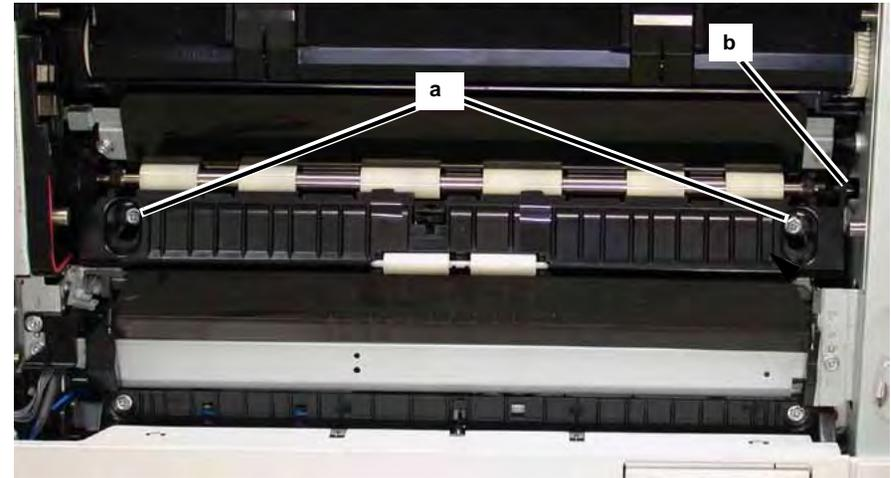

Figure 6 Removing Screws
8. Remove the Registration Transport (Figure 6).
- a. Remove the Screws (2)